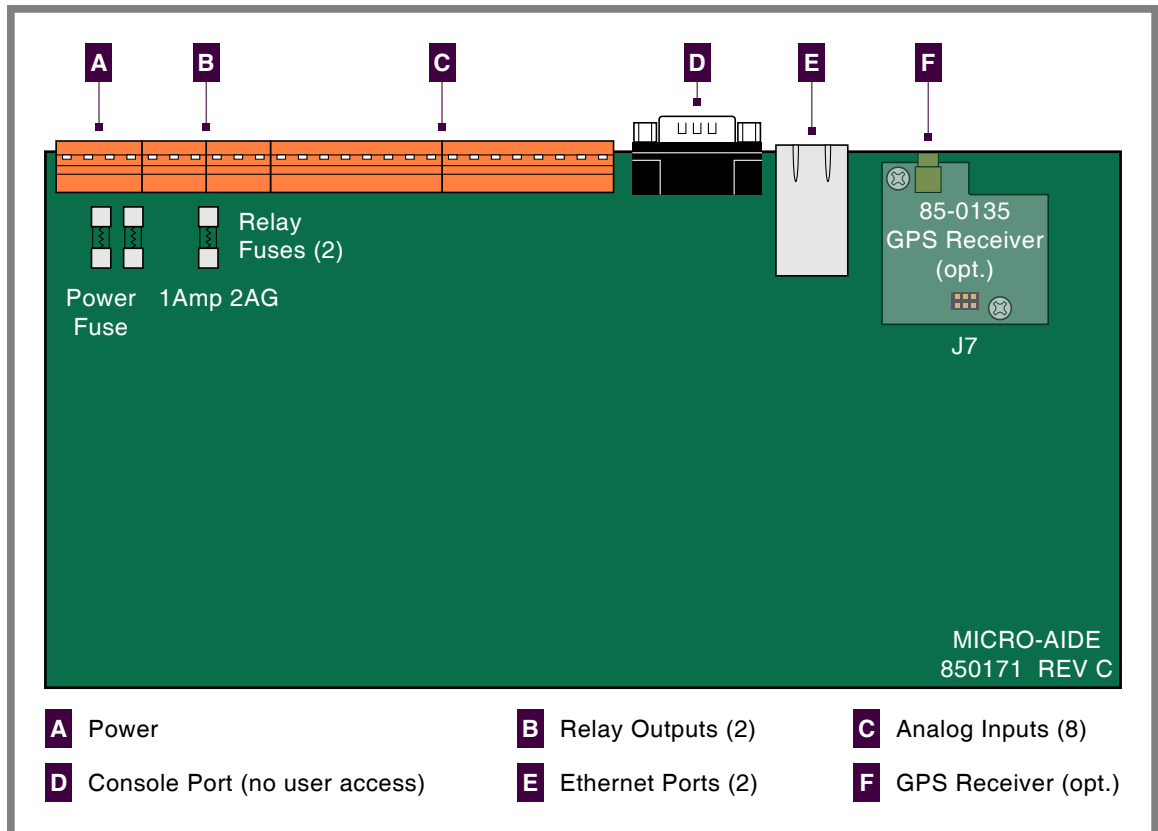

Figure 9: Processor PCB
There are three fuses mounted on the Processor PCB. The fuses are designed to protect the input power source and the contacts of the Relay Outputs. Each are rated at 1 A and conform to the 2AG size standard. Before replacing a fuse the cause of the blown fuse should be ascertained and cleared if possible. The fuses are illustrated in Figure 9 on page 92.
Generally, the GPS Receiver is ordered at the time the recorder is purchased and is pre-installed at the factory. However, if the receiver was not previously ordered, it can be installed by the user. To install the receiver follow the steps listed in the following. The GPS Receiver PCB is illustrated in Figure 9 on page 92.
3. Locate the 6-pin female socket labeled "J7" near the top edge of the Processor PCB. The socket is illustrated in Figure 9 on page 92.